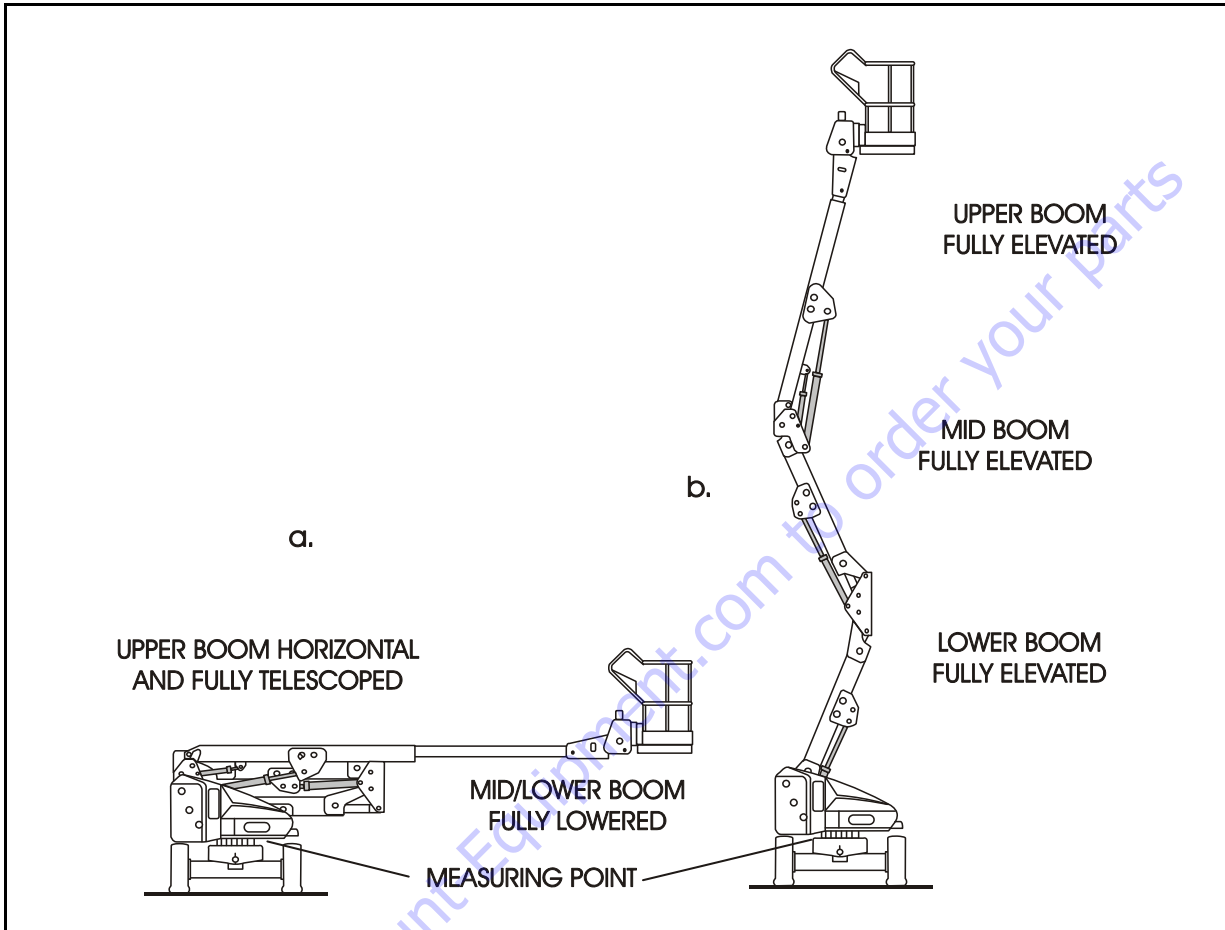
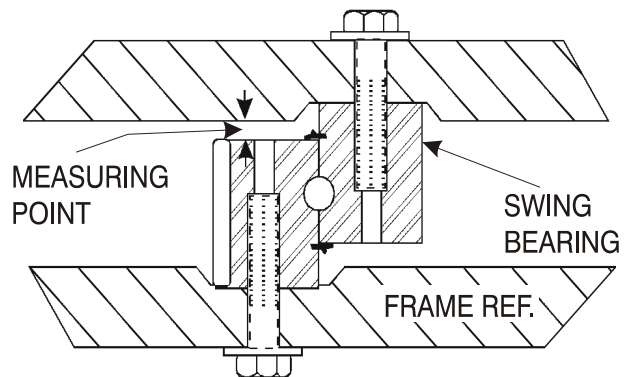

Figure 3-22. Swing Bearing Tolerance Boom Placement
Figure 3-23. Swing Bearing Tolerance Measuring Point
- b. At the positions indicated on Figure 3-22, try and insert the 0.0015" feeler gauge between the bolt head and hardened washer at the arrow indicated position.
extended and Mid/Lower Boom stowed, (See Figure 3-22.), using a magnetic base dial indicator, measure and record the distance between the swing bearing and turntable. (See Figure 3-23.)
2. At the same point, with the boom positioned over the side of the machine, the Upper Boom fully elevated and the Mid/Lower Boom fully elevated, (See Figure 3-22.) using a magnetic base dial indicator, measure and
record the distance between the swing bearing and turntable (See Figure 3-23.).